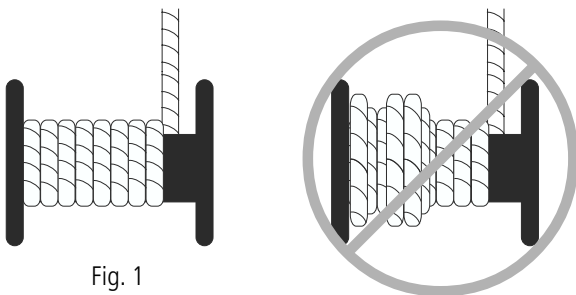

Fig. 1
>> An even and adjacent unwinding of the cable on the winch drum should occur. (see figure 1)
- >> An even and adjacent unwinding of the cable on the winch drum should occur. (see figure 1)